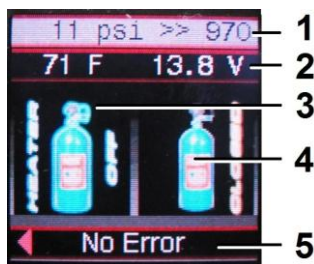

Figure 3
1. Hitting the menu key will show the following screen (Fig. 3) :